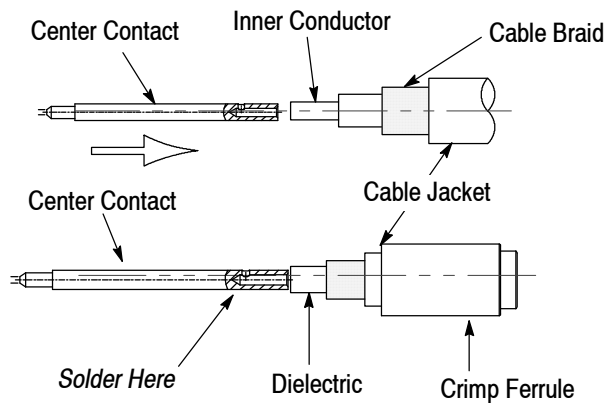

Figure 4
3. Push the center contact over the center conductor and solder in place. See Figure 4.